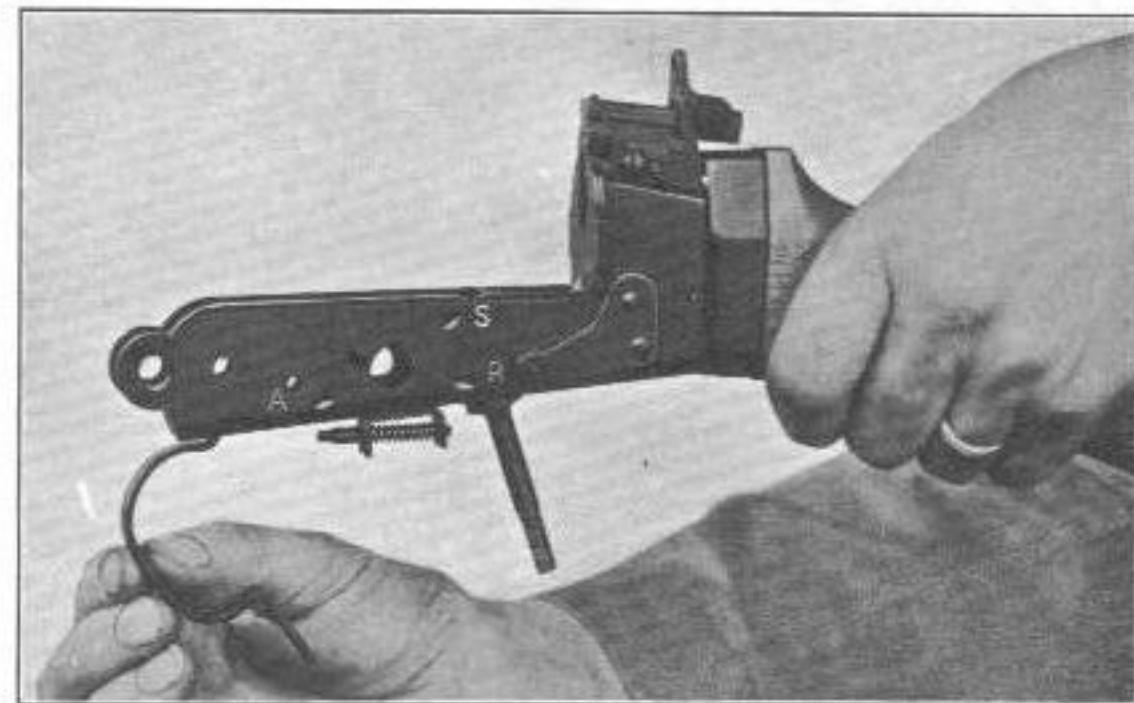

Fig. 106
f) **Trigger guard.** — Remove the trigger guard by rotating it forward, while pulling it slightly downward (fig. 106).